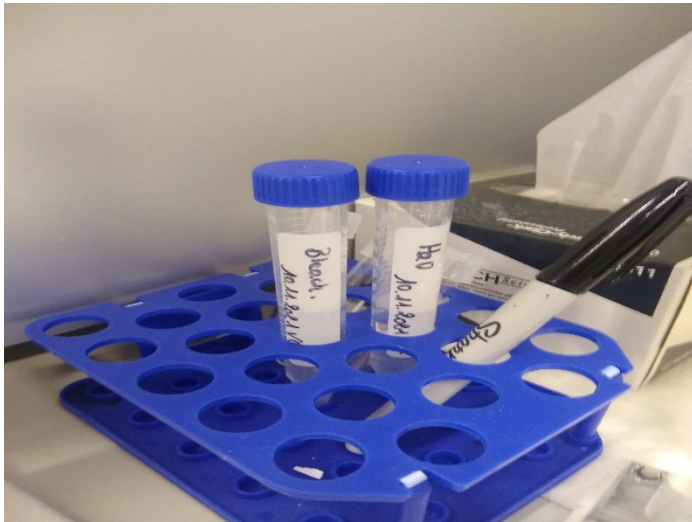
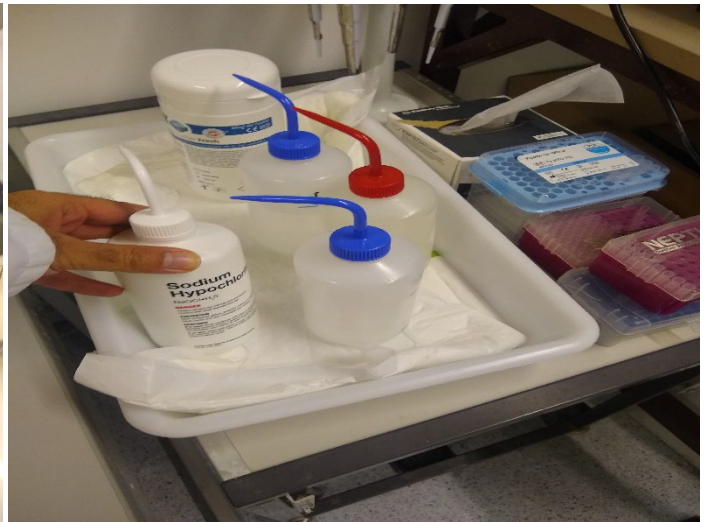

Figure 21
Figure 22
24. Take the bleach tube which should be on the table next to the computer (Figure 21) and fill it with bleach up to 10ml (Figure 22).